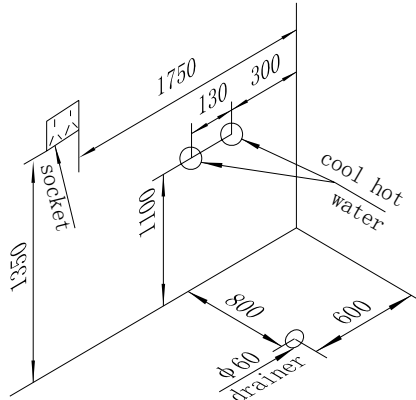

Fig.1
1) User firstly should install inlet tubes for cold and hot water, and install the drain pipe, the floor drain, three-hole socket etc, Fig.1
2) Assemble the wall — put the left wall, the left light pillar, the middle wall and the right light pillar, the right wallboard vertically to the level ground with soft cloth of cushion (Fig.1), connect these five pieces as a whole through the corresponding holes in each of them with M6x25 bolts, make up the wall assembly. (Notice: don't tighten the bolt temporary).